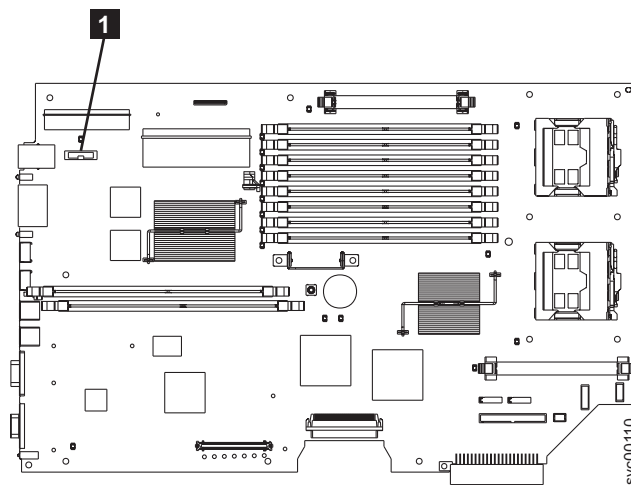

Figure 116. Location of the CMOS battery on the SAN Volume Controller 2145-8F2 or the SAN Volume Controller 2145-8F4
1. Insert the new battery in the battery socket. Figure 116 shows the location (1) of the battery socket.